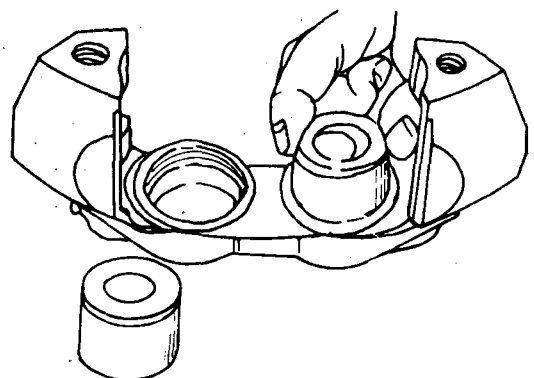

Fig. 8
- b) Install the pistons into the cylinders (fig. 8).